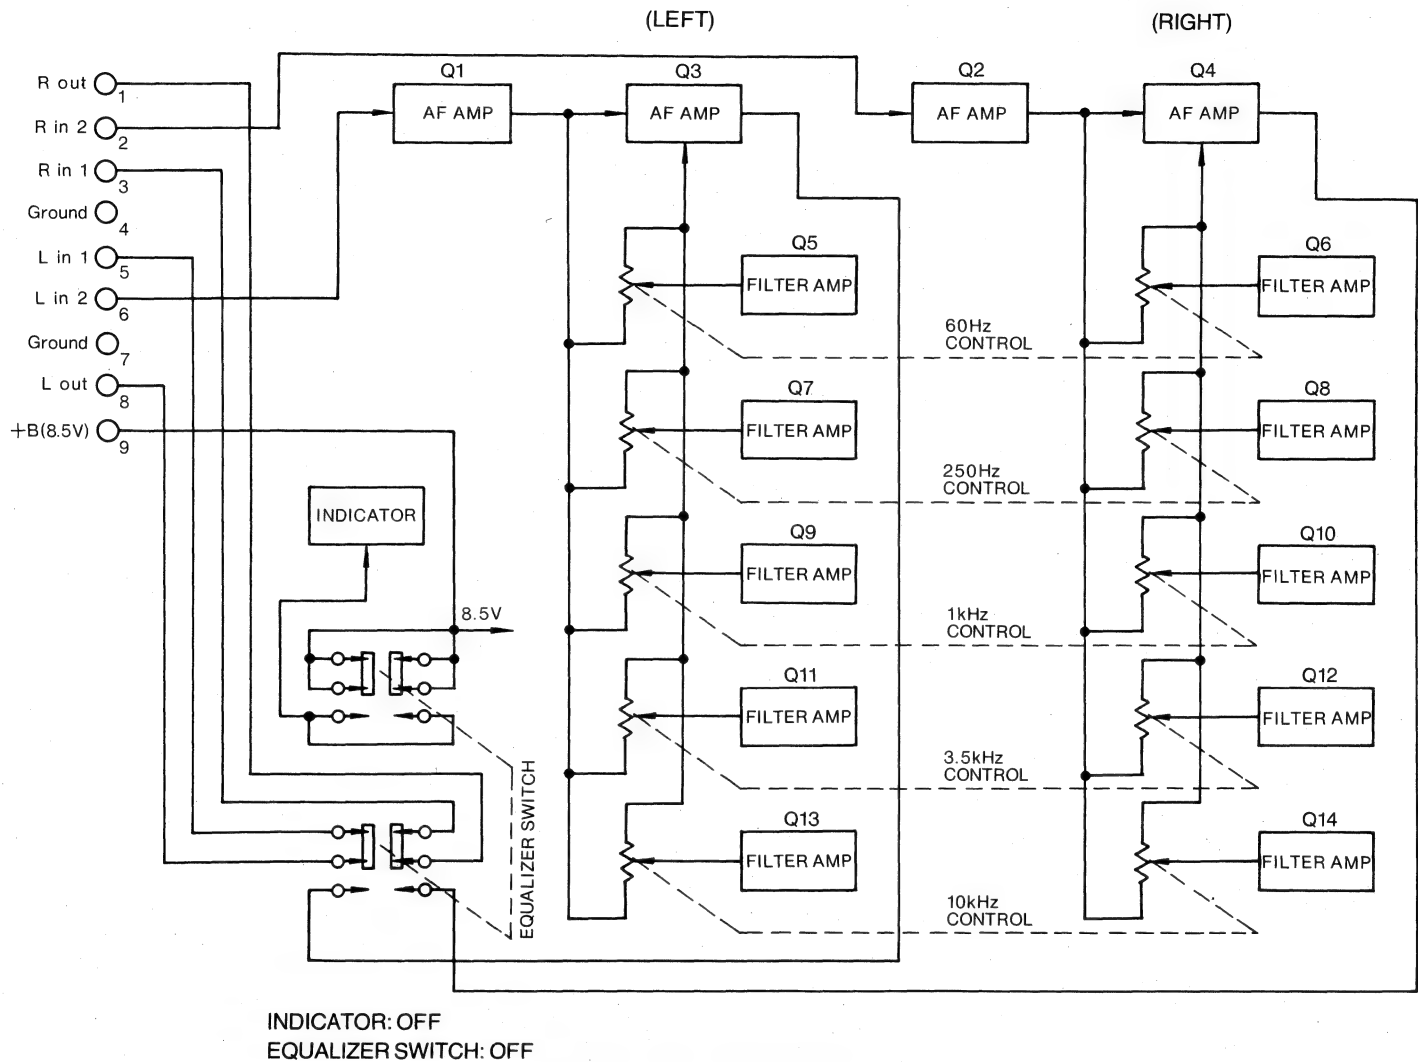

Fig. 39 Block Diagram-Model RM-E610
2. Then contact point ⑥ [figure 39-(a)] is released, and reverse gear (C) moves in the direction of arrow ①, resulting in the condition shown in figure 38-(b).
3. At this time, reverse gears (A) and (C) are meshed, and reverse gears (B) and (C) start rotating in the direction of arrow ②.
Figure 39 shows the block diagram of the model RM-610. It is composed of two-stage AF amplifiers (left and right channels) and five filter amplifiers for each channel, one for control of each frequency point.